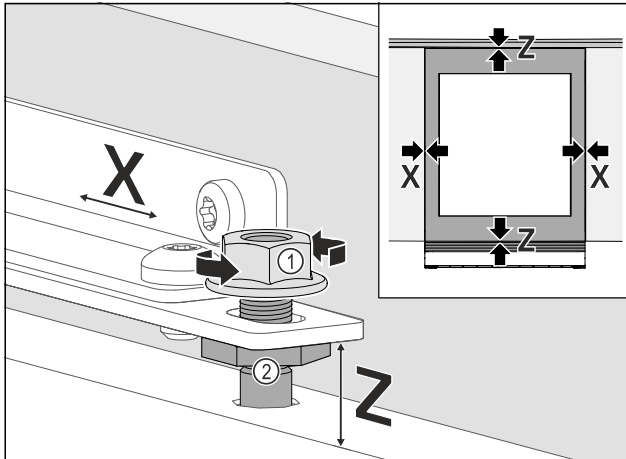

Fig. 104
- ▶ Align the unit door sideways: Loosen lock nut Fig. 104 (1), move unit door in X direction.
- ▶ Tighten the lock nuts Fig. 104 (1).
- ▶ Align the unit door in height Z and in the lateral inclination: Adjust the adjustment bolt Fig. 104 (2).